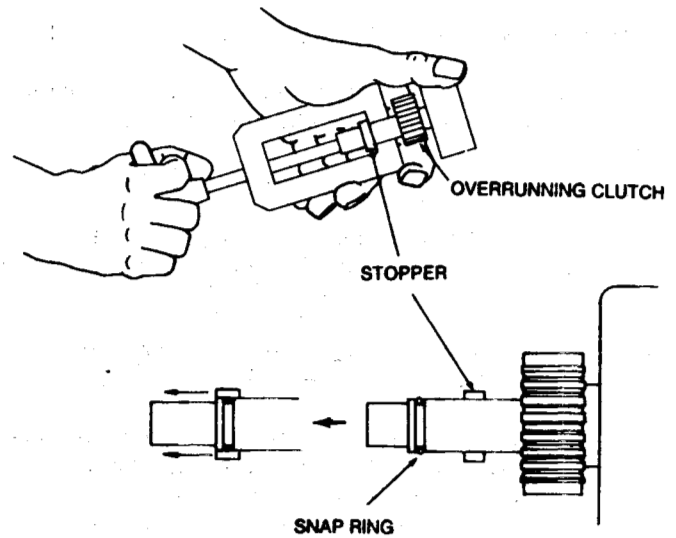

FIGURE 3. INSTALLING STOPPER
3. Pull stopper all the way over snap ring (Figure 3). It may be necessary to tap snap ring into groove with a punch while maintaining tension on stopper.